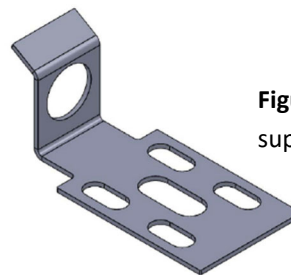
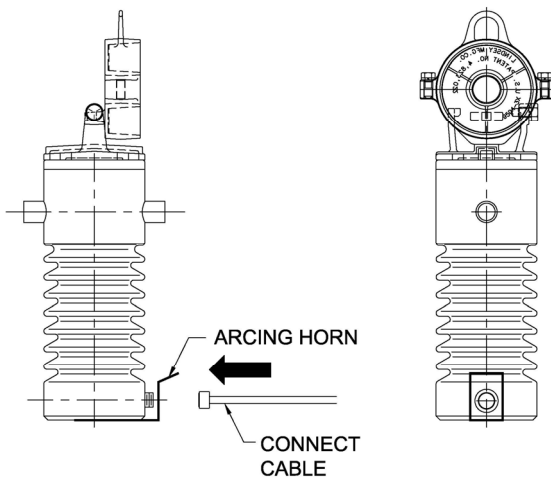

Figure 5: Arcing bracket (arcing horn) supplied with sensor
Figure 4: Clamp-top style sensor showing proper orientation of arcing bracket
Included with the sensor is an arcing bracket (also known as an arcing horn), P/N R-26525 (see Figure 5) which will be installed under the sensor per Figure 4.
5. Place the provided arcing bracket (see Figure 5) underneath the sensor and mount both on the crossarm or other mounting surface. The connector socket on the sensor must be aligned with the hole in the arcing bracket. See Figure 4.